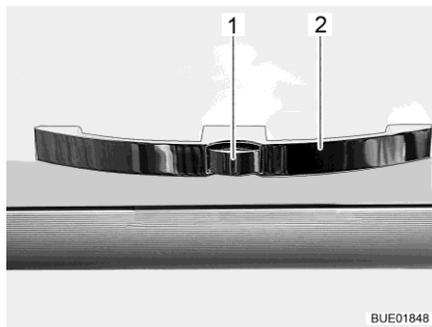

Fig. 66 Furniture flap with handle (example)
- Press the release knob (Fig. 66,1) on the handle (Fig. 66,2) and hold it down.